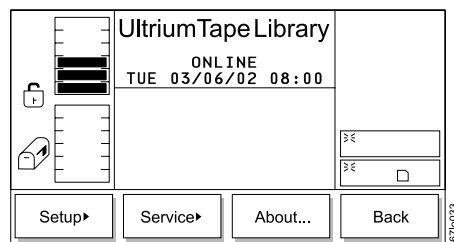

Figure 336. Main Menu (alternate screen)
1. From the Main Menu's initial screen, press the button below the **More** softkey. The Main Menu's alternate screen displays (see Figure 336).